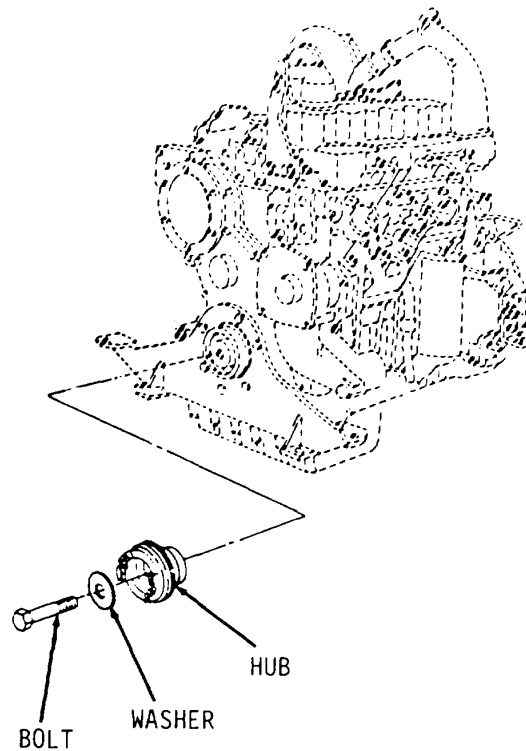

Figure 3-40.
1. Loosen bolt from front of engine (Figure 3-40). Do not remove.
1. Position hub on crankshaft (Figure 3-40).